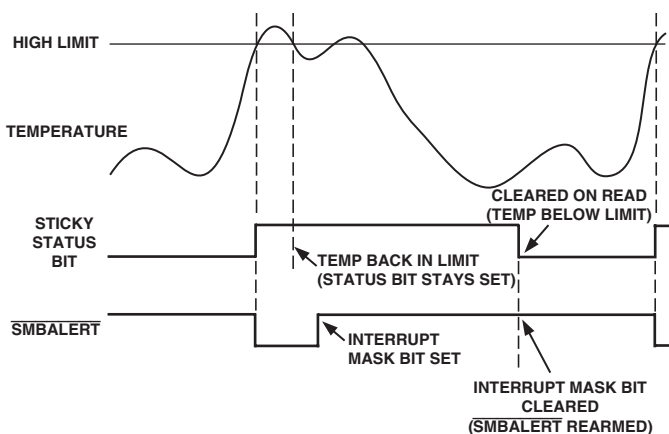

Figure 17. How Masking the Interrupt Source Affects $\overline{\text{SMBALERT}}$ Output
7. Periodically poll the Status Registers. If the interrupt status bit has cleared, reset the corresponding Interrupt Mask Bit to 0. This will cause the $\overline{\text{SMBALERT}}$ output and status bits to behave as shown in Figure 17.